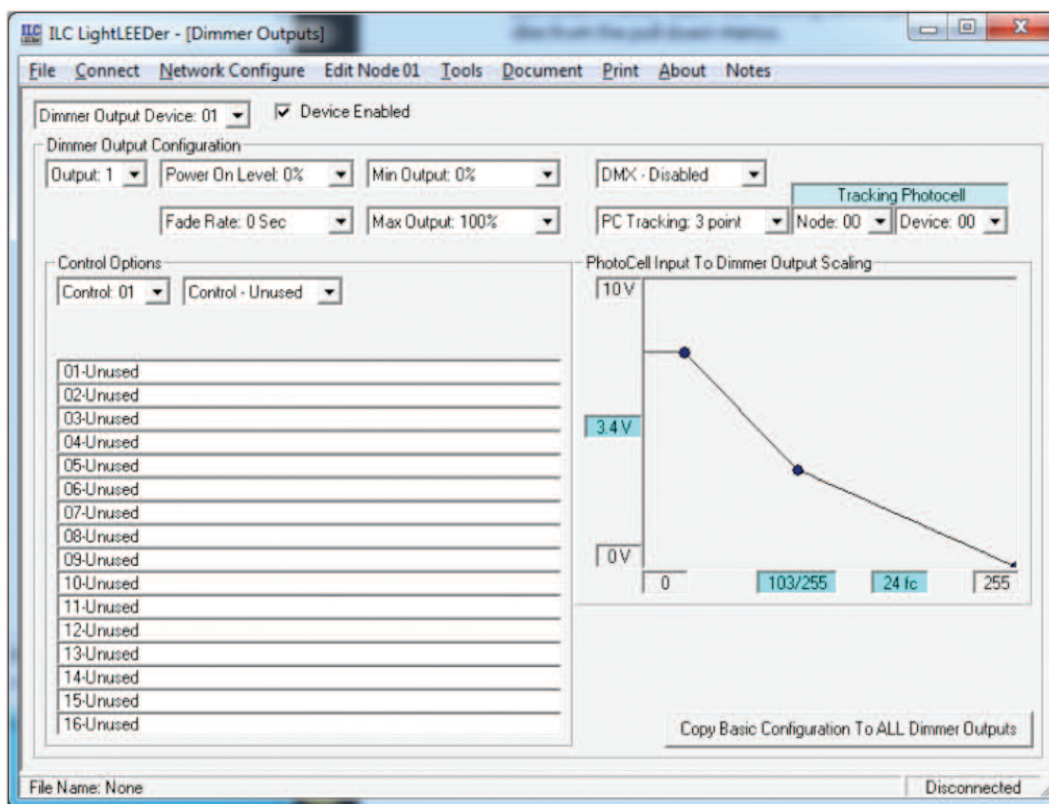

Figure 4.1 Photocell to Dimmer Output Scaling
- **Photocell (PC) Tracking:** Allows tracking of a photocell in an open-loop 2/3 point tracking or a closed-loop set-point tracking.
**Photocell 2 or 3 Point Tracking (open loop):** From the Dimmer Output screen select PC Tracking 2 Point or PC Tracking 3 Point from the pull-down menu. Select the tracking device panel node and the photocell address, and then from the graphical screen move the points for the desired voltage output and foot candle to get the desired operation. The scaling graph is for adjusting 0-10 voltage control outputs for light levels seen from the photocell controller. Lighting levels from 0 – 1800 foot candles (fc) are divided into 255 steps as seen on the lower portion of the scale along with approximate fc settings. Dimming output is scaled from 0 to 10V in the left side of the scale and can be adjusted in .01 V increments. Adjust these values to represent the control desired. See figure 4.1